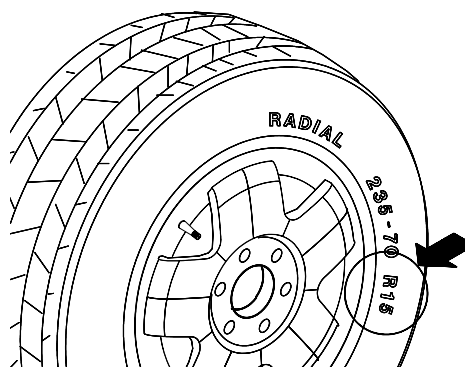

Figure 23
4.5.3. Rim Diameter - Read the rim diameter marked on the sidewall of the tire (*Fig.23*). Enter the measured rim diameter by rotating the diameter/function knob until the desired value appears in the right display.